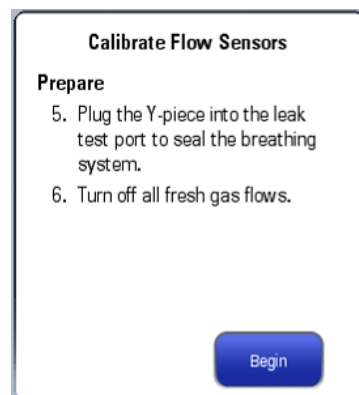

FIGURE 7-2 Flow Sensor Calibration
9. Follow the on-screen prompts and select the **Begin** button to start to calibrate the flow sensor (see FIGURE 7-2). The calibration process takes several minutes. The system displays the results of the calibration status when the process is completed.